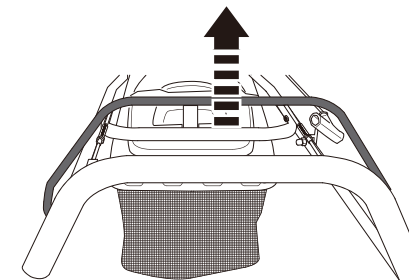

Fig. 19
Release the brake bar (2) to stop the engine and blade (Fig. 19).